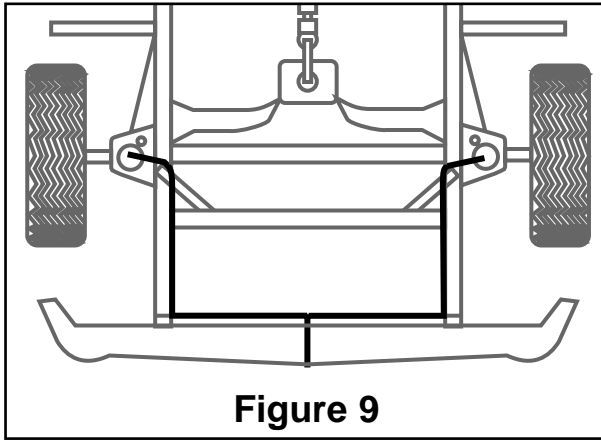

Figure 9
- H. Push the remaining air line over the last fitting on tee and route along frame to desired inflation valve location (Figure 9). Attach with plastic straps or wire.